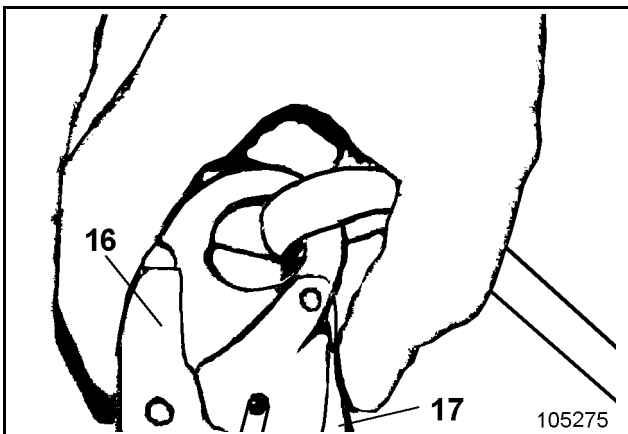

Fig. 2-56:
- Release hooking safety device (17, Fig. 2-56:).